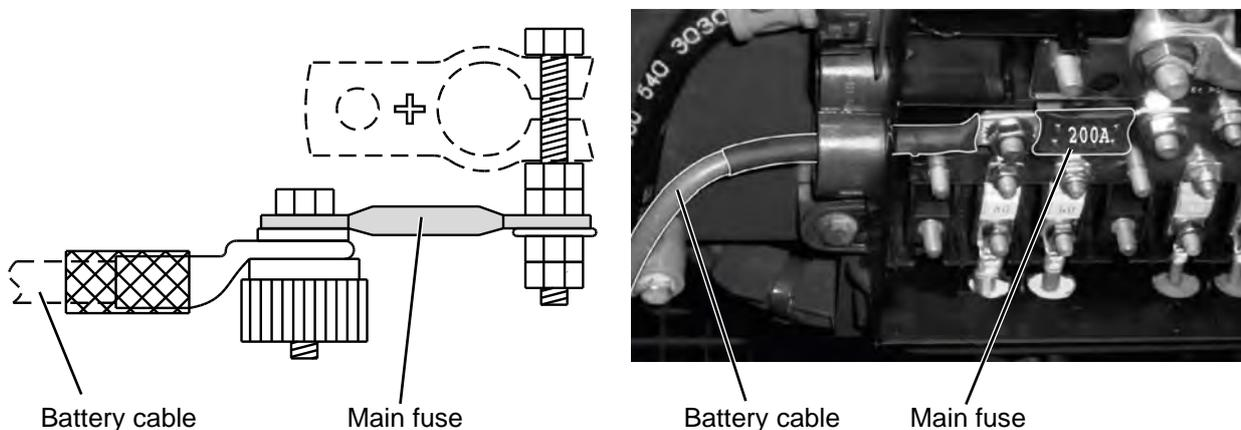

Figure 23: Battery connection
- ▶ Attach the main fuse with the cable lug and connect the battery cable to the battery plus terminal or alternatively to the battery distributor (see Figure 23).